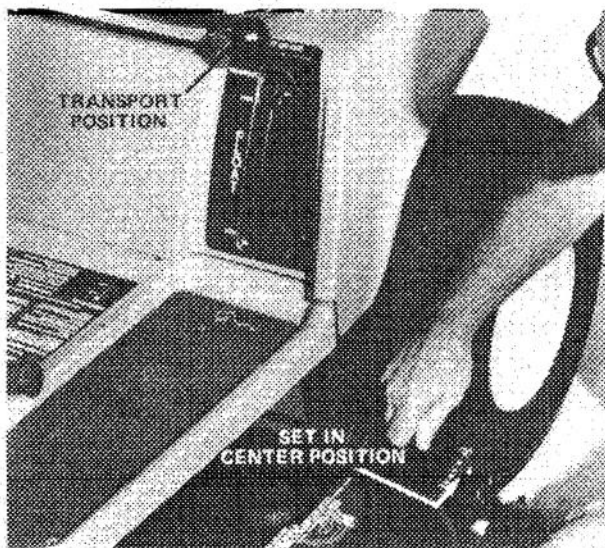

Figure 31
2. With height-of-cut lever in transport position, set cutting unit deck wheels in center position (Fig. 31).